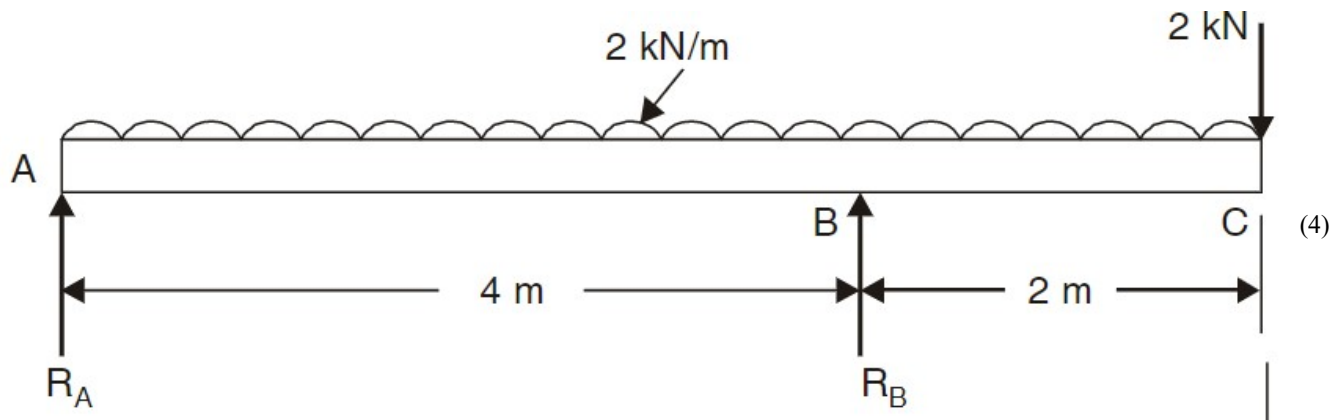

Figure 2
- B) Draw shear force and bending moment diagrams for the overhanging beam carrying uniformly distributed load of 2 kN/m over the entire length and point load of 2 kN as shown in the figure 2. Locate the point of contraflexure.